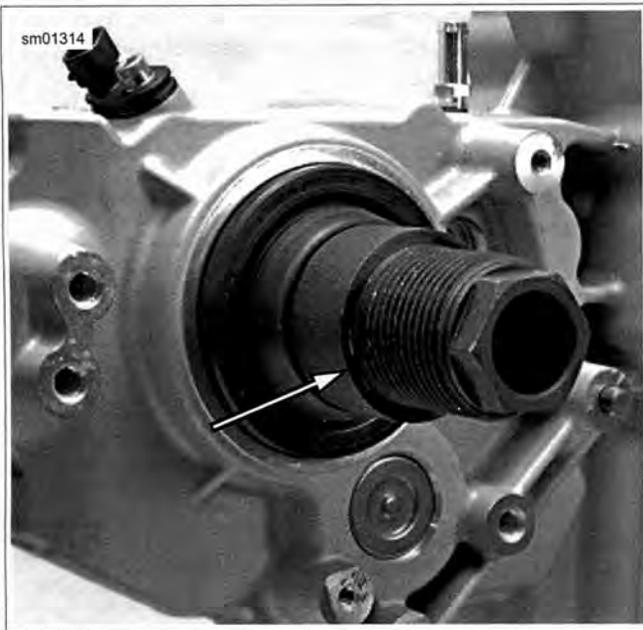

Figure 5-82. Install Adapter (typical, XL model shown)
6. See Figure 5-82. Thread ADAPTER (Part No. HD-47856-4) onto end of main drive gear several turns. Do NOT tighten on drive gear. Doing so could make it difficult to remove adapter after seal has been installed.